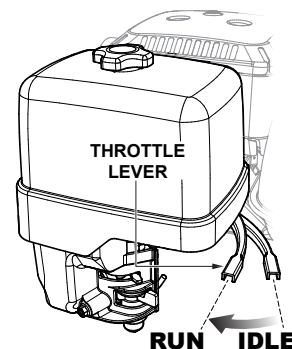

Figure 22. Throttle Lever (Run)
11. To begin mixing, place the throttle lever (Figure 22) in the “RUN” position.